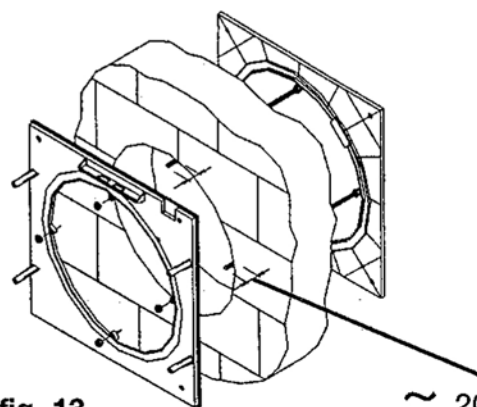

fig. 13
6. Place the outer clamp plate (D) with the rods (A') in the outside part of the hole in the wall, ensuring that the length of the rods protruding from the wall is approximately 20 mm to prevent interference when installing the body of the fan (B). Place the inner clamp plate (C) on the inside of the wall matching up the four (4) interior housings with the rods and then use the nuts to fasten the two plates together. (**FIG 13**)